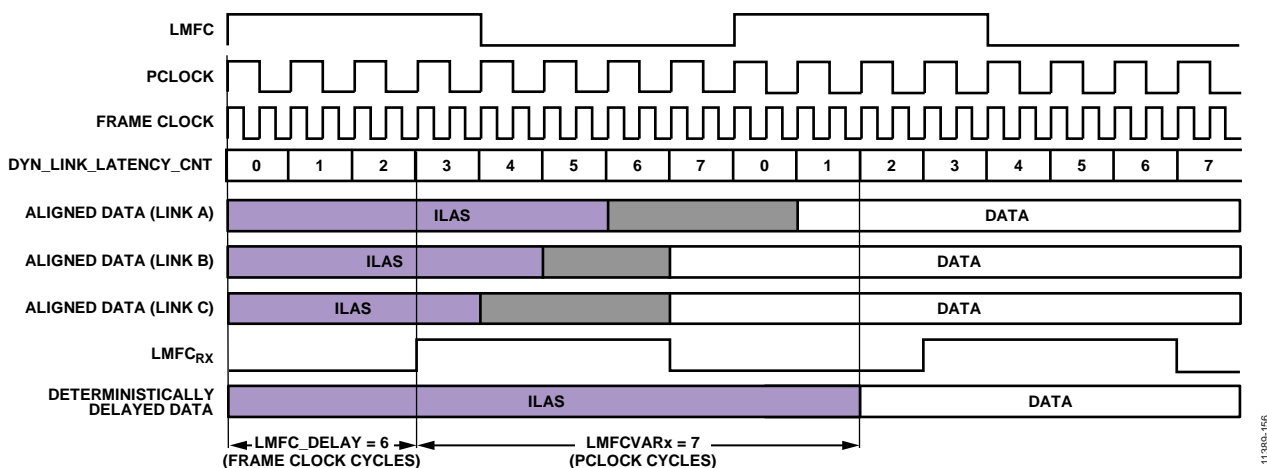

Figure 56. Multilink Synchronization Settings, Derived Method Example
Figure 56 shows how DYN_LINK_LATENCY_X (Register 0x302 and Register 0x303) provides a readback showing the delay (in PClock cycles) between LMFC_{RX} and the transition from ILAS to the first data sample. By repeatedly power-cycling and taking this measurement, the minimum and maximum delays across power cycles can be determined and calculate LMFCVar and LMFCDel.
The example shown in Figure 56 is demonstrated in the following steps according to the procedure outlined in the Without Known Delays section. Note that this example is in Subclass 1 to achieve deterministic latency, which has a PClockFactor (FrameClockRate/ PClkRate) of 2 and uses K = 16; therefore PClocksPerMF = 8.
1. In Figure 56, for Link A, Link B, and Link C, the system containing the AD9154 (including the transmitter) is power cycled and configured 20 times. The AD9154 is configured as described in the Device Setup Guide section. As the point of this exercise is to determine LMFCDel and LMFCVar, the LMFCDel is programmed to 0 and the DYN_LINK_LATENCY_x is read from Register 0x302 and Register 0x303 for Link 0 and Link 1, respectively. The
variation in the link latency over the 20 runs is shown in Figure 56 in gray.